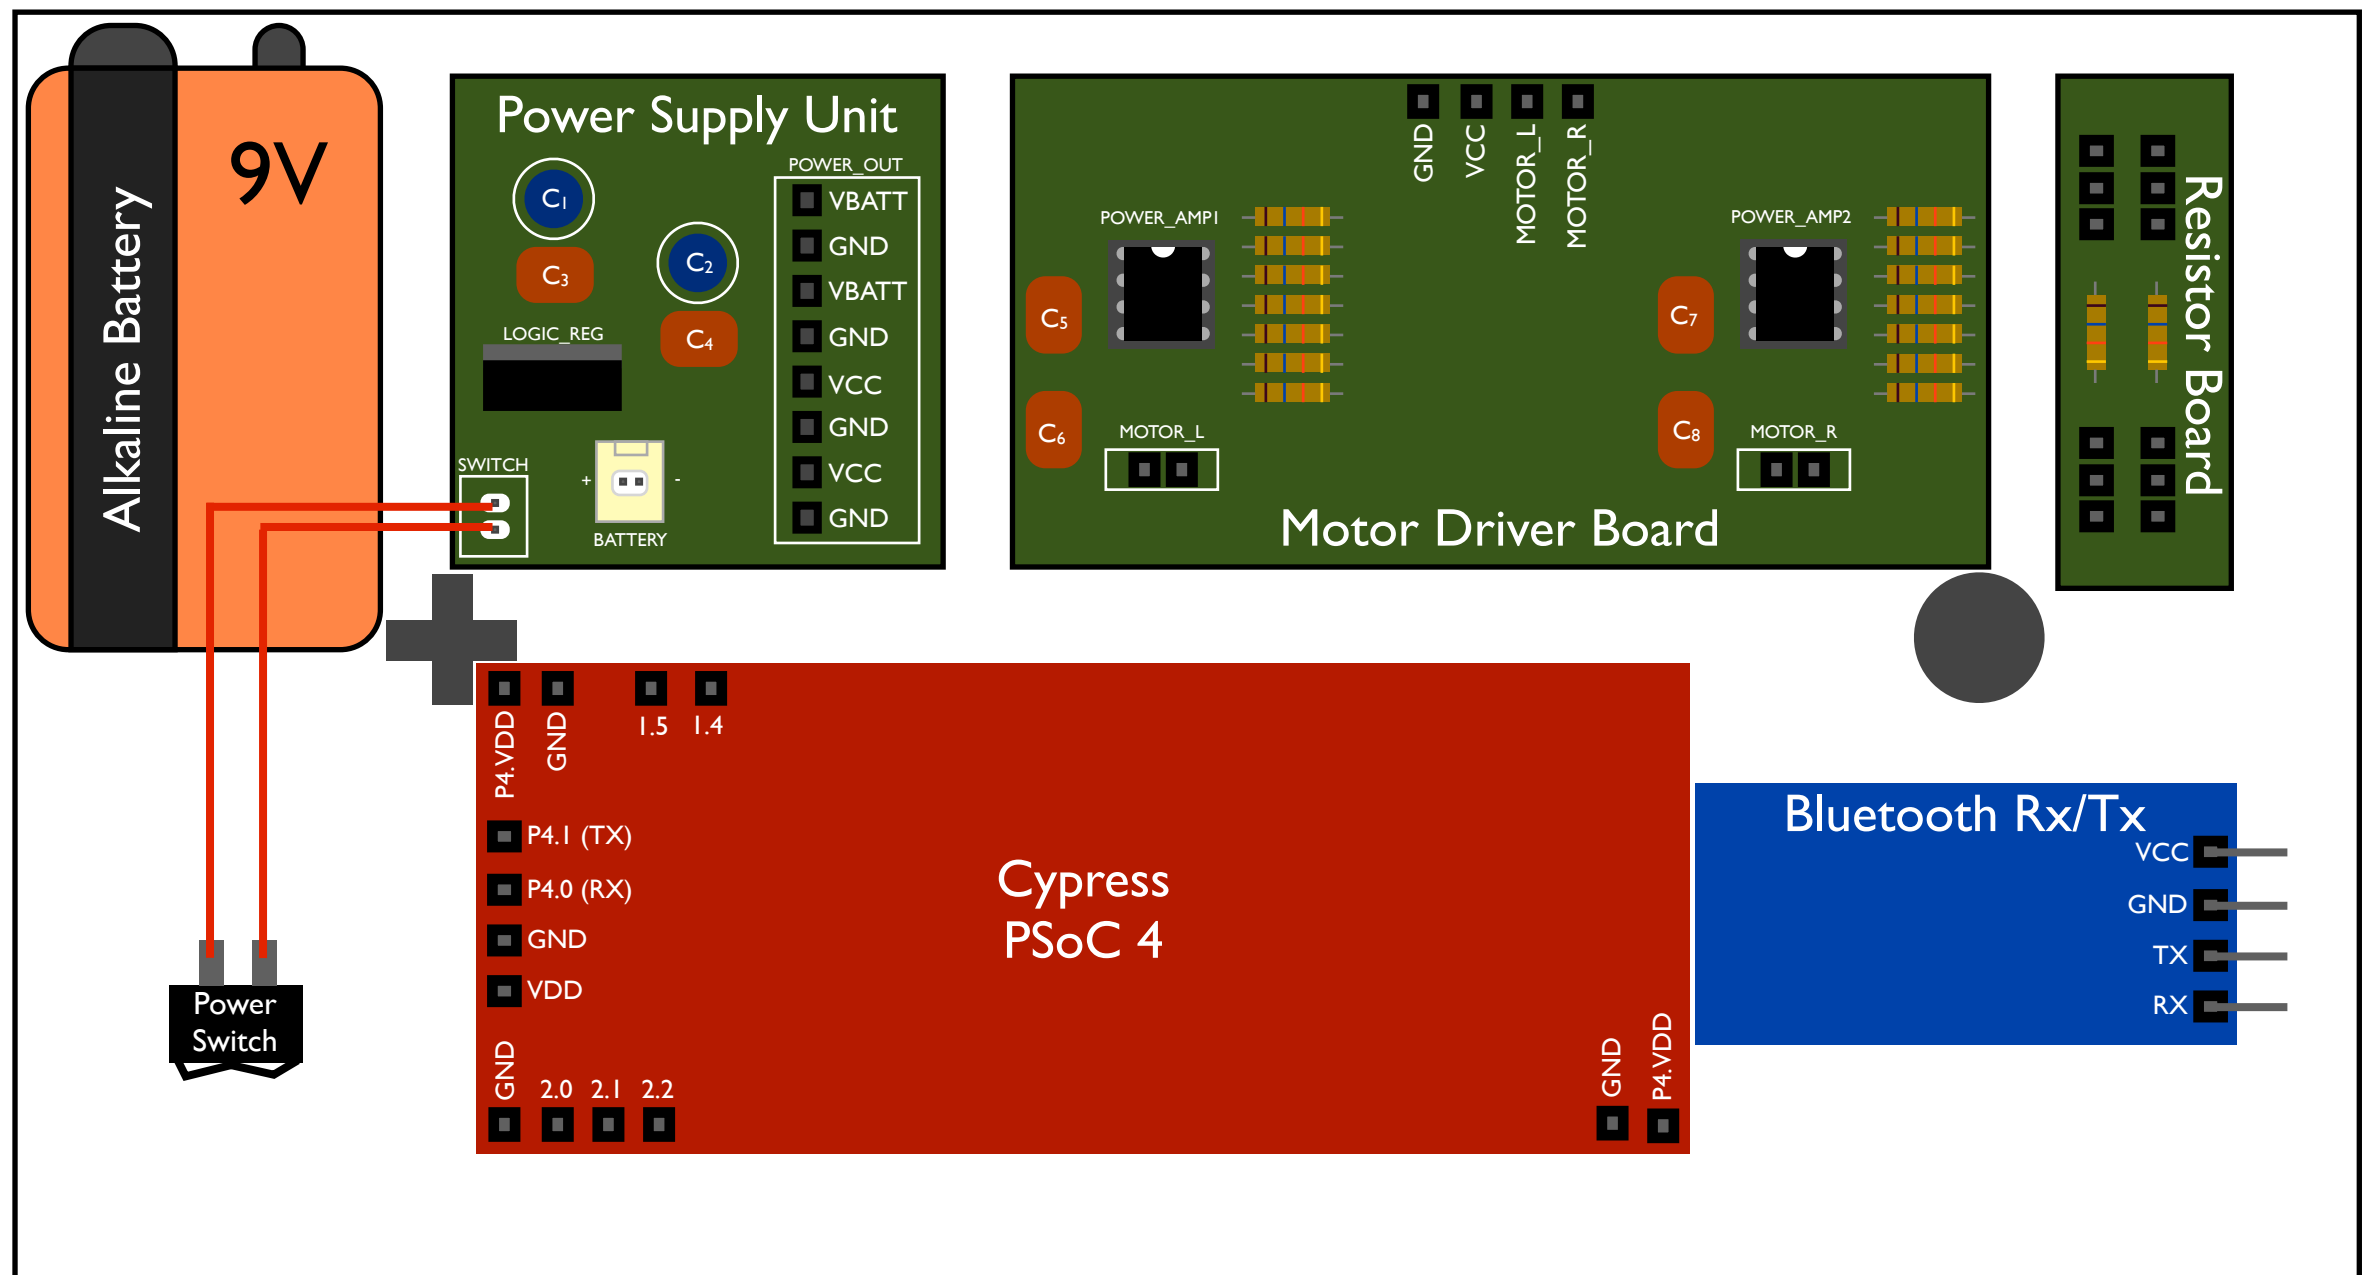

Figure 3. Connecting PSU and Power Switch with two red jumper wires
3. Connect PSU and Power Switch (Figure 3)